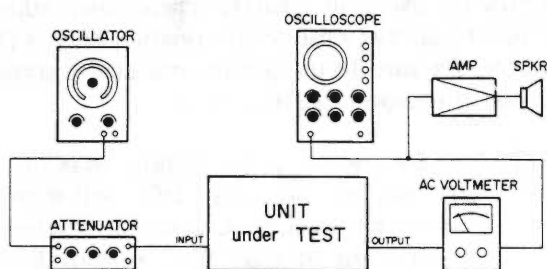

Fig. 2-13. Input Level Calibration
1. Connect the test equipment as shown in Fig. 2-13.
1. Connect an AF oscillator, oscilloscope, AF level meter (adjusted to 1 V range) and a 50k ohm load to the tape deck as shown in Fig. 2-13.
1. Connect the AF oscillator, oscilloscope, AF level meter, and a 50k ohm load to the tape deck as shown in Fig. 2-13.
1. Connect the test equipment to the tape deck as shown in Fig. 2-13 and load a blank test tape onto the tape deck.
- Connect test equipment as shown in Fig. 2-13.
- * Check erasure, refer to item 2-11-13.